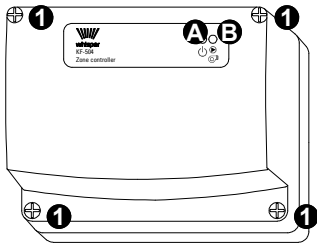

Fig. 1: External aspect
There are two LEDS on the device front panel, shown in Fig. 1:
- Remove the 4 screws labelled as ❶ in Fig. 1 then remove the front plastic cover.
- Then reposition the front panel on the enclosure and fasten in place with the four screws ❶ in Fig. 1.